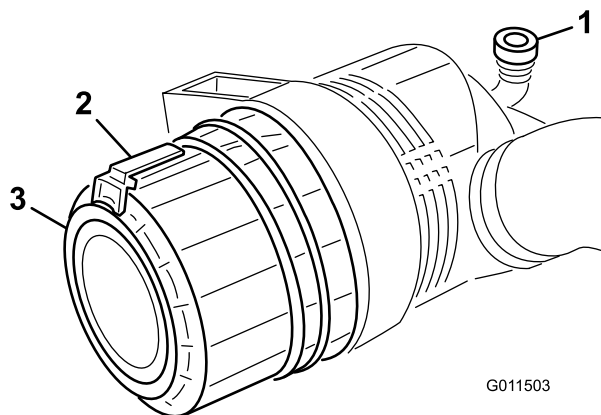

Figure 50
Service the air cleaner filters when the air cleaner indicator (Figure 50) shows red or every 400 hours (more frequently in extremely dusty or dirty conditions). Do not over-service the air filter.
1. Pull the latch outward and rotate the air cleaner cover counterclockwise. Remove the cover from the body (Figure 50). Clean the inside of the air cleaner cover.
6. Reset the indicator (Figure 50) if it shows red.